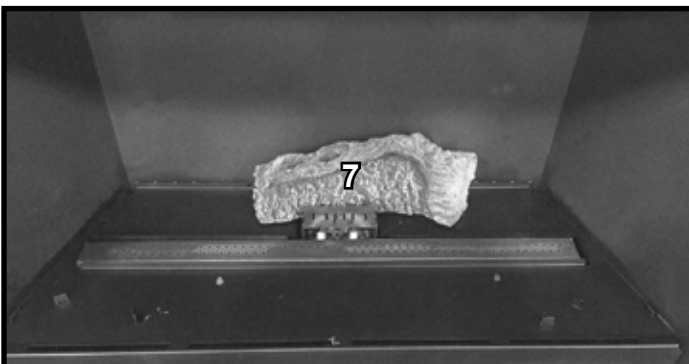

Figure 27. Place Log #7
8. Install Log #7 by setting it on the base pan behind the pilot hood and sliding it right until it contacts both placement tabs behind the burner. The placement tabs should be bent up at 90 degrees from the base pan. See Figure 27.